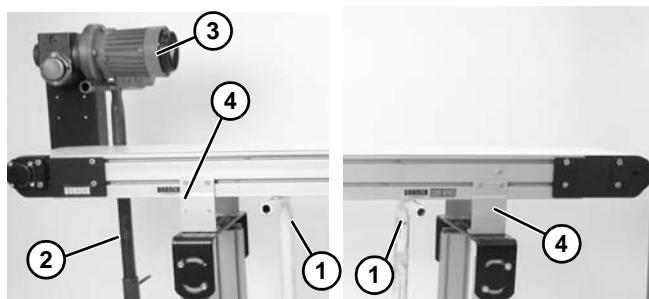

Figure 21
1. Place temporary support stands (**Figure 21, item 1**) at both ends of the conveyor. Place an additional support stand (**Figure 21, item 2**) under the drive motor (**Figure 21, item 3**), if equipped. See WARNING.
2. Remove mounting brackets (**Figure 21, item 4**) from one side of conveyor. (Reverse steps 3 & 4 of “Mounting Brackets” section on page 9).
1. Ensure temporary support stands (**Figure 21, item 1**) are placed at both ends of the conveyor. Place an additional support stand (**Figure 21, item 2**) under the drive motor (**Figure 21, item 3**), if equipped. See WARNING.